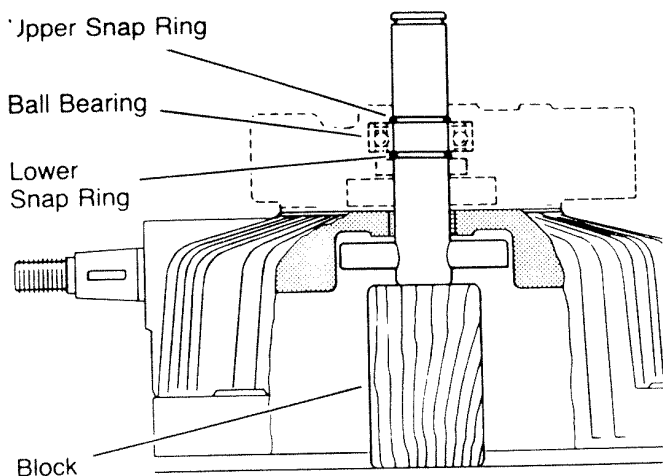

Fig. 52
**97** With cover assembly separated from the body and the input shaft properly supported (see Figure 52) the input shaft bearing may be pressed into position.